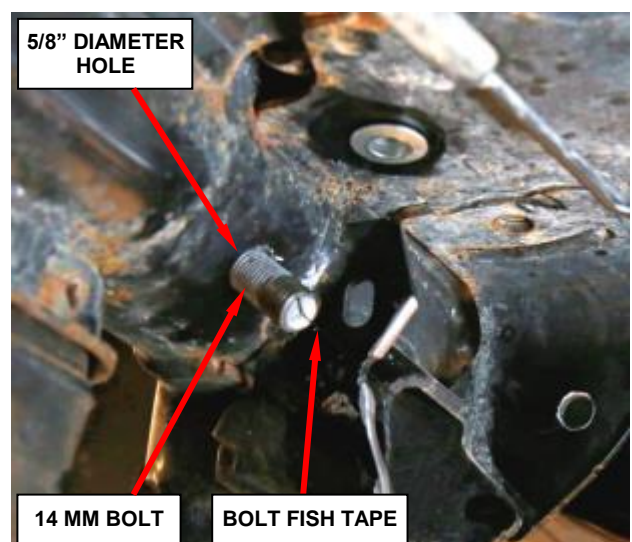

Figure 24 – 14 MM Bolt in 5/8” Diameter Hole Location
45. Carefully pull the “bolt fish tape” until the 14 mm bolt is seated in the 5/8” frame hole (Figure 24).